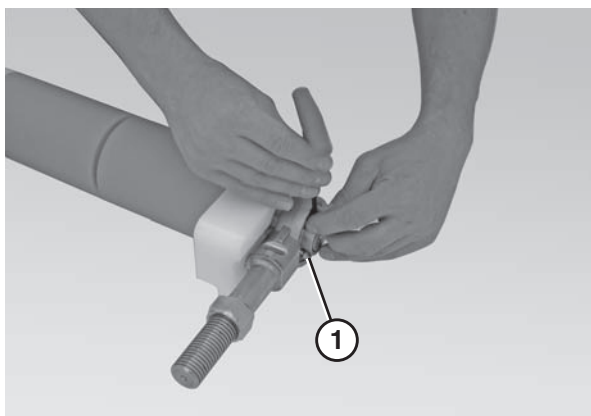

Figure 63
- Use a 4 mm hex wrench to loosen the bearing fasteners (**Figure 63, item 1**).